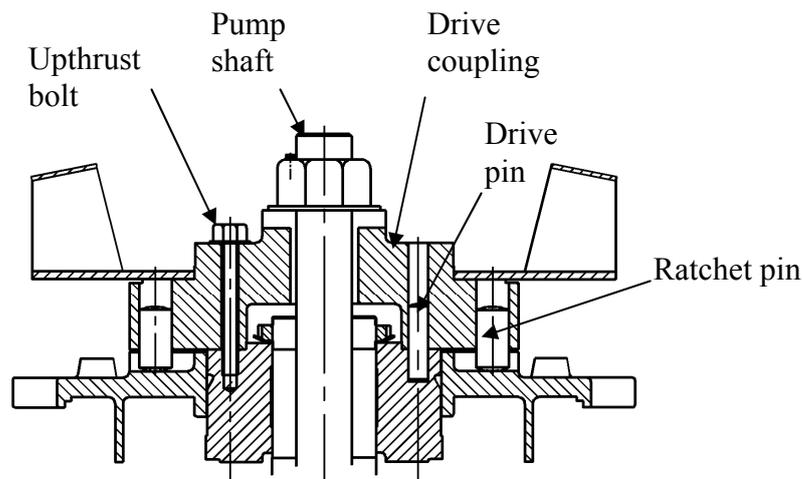

Fig. 11
Bolted coupling as Fig.11
3.3.6 Non-reverse ratchet/coupling, as Fig. 11 (If fitted)